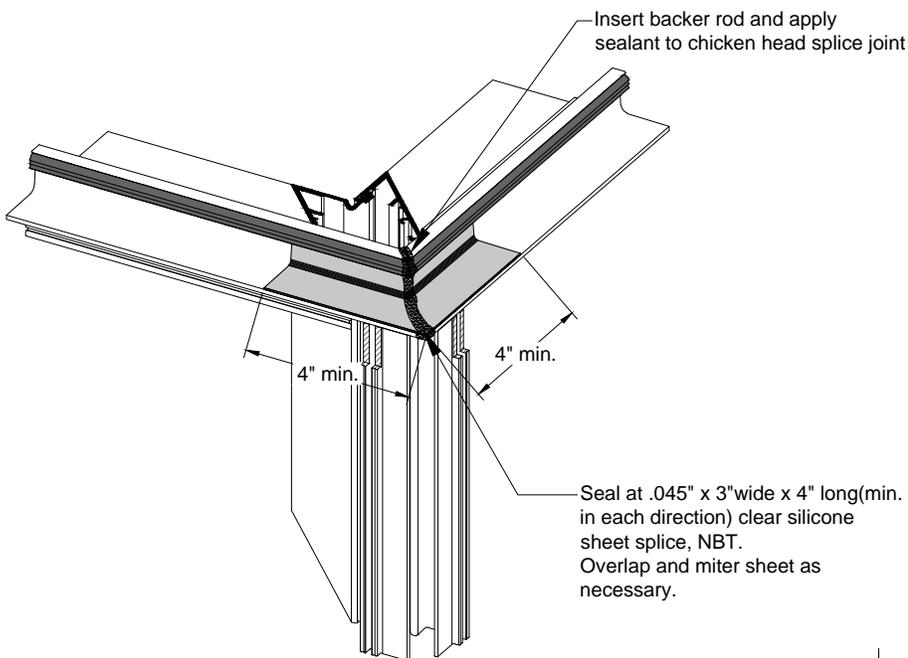

Fig. 54.1
- x. At corner mullions, miter the chicken head gasket for a tight fit. Seal together with Dow 791. See Fig. 54.1.
- i. Set first frame unit in opening, shimming at the sill according to approved shop drawings. Make sure the shim extends under the vertical mullion for proper dead load support. Check the jamb joint width prior to anchoring the frame unit to the building at the anchor point. See Fig. 54.1.
- a.b. Top of Slab Anchor: Slide P4765 anchor shoe into anchor clip that is attached to the back of the vertical mullion. Set over the anchor plate ball and secure with S458 #12 x 3/8" U-drive setting screw. For dead load anchors, install S468 9/16-12 x 3-1/2" HH jack bolt at the top of the anchor clip. Adjust jack bolt and anchor plate as necessary for proper sill joint, frame unit squareness and offset distance from edge of slab. See Fig. 26.1, Fig. 47.2 & Fig. 54.1.